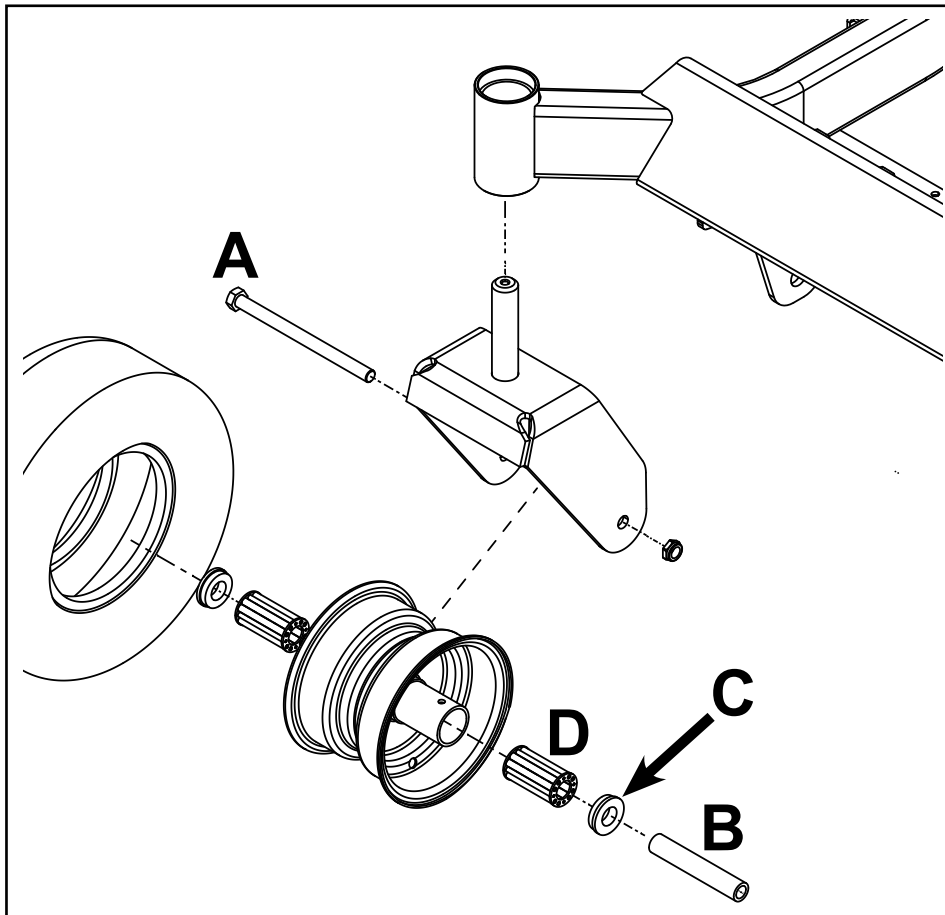

Fig. 007
1. Lightly lubricate bearings (D), bushings (C) and wheel spanner (B) with No. 2 general-purpose lithium base grease. Fill center of wheel hub with grease.
2. Install the (2) bearings (D) and (2) bushings (C) into front wheel hub, making sure they are fully seated.
3. Install wheel spanner (B) into the front wheel assembly.
5. Install the nut / bolt (A) and torque nut to specification - 35 ft-lbs. (47 Nm).
7. Safely lower unit and verify proper function. (Fig. 007)